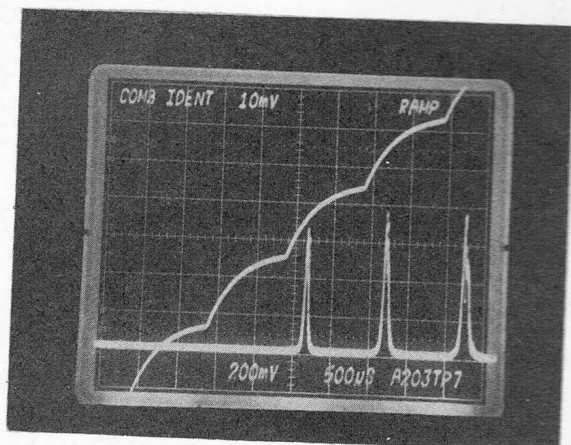

FIGURE 6-4
(2) Ground A203TP1.
(3) Apply a signal of approximately 1.1 GHz at -15 dBm to Band III input.
(4) Depress RESET switch.
(5) With no DC offset applied, adjust Channel B vertical sensitivity so each ramp step is two vertical divisions (approximately 10 mV/div). Set Channel A to 200 mV/div. Set time base to 5 ms/cm and set time base multiplier to X10. Oscilloscope display should appear as shown in Figure 6-4.